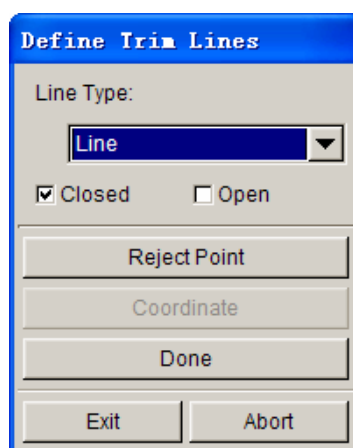

Figure 5.2.6 Define Trim Line dialog box
4. **DEFINE TRIM LINE** as illustrated in Figure 5.2.6 is displayed.